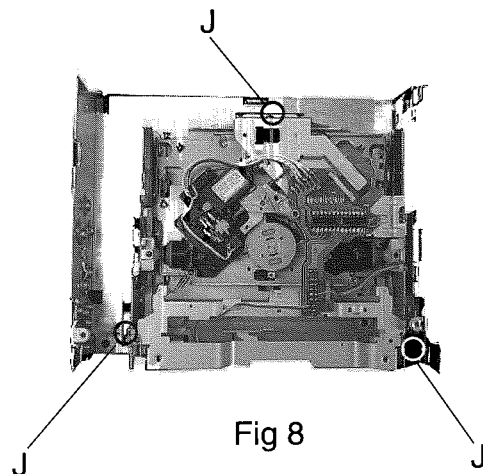

Fig 8
■ **CD mechanism assembly (See Fig. 8)**